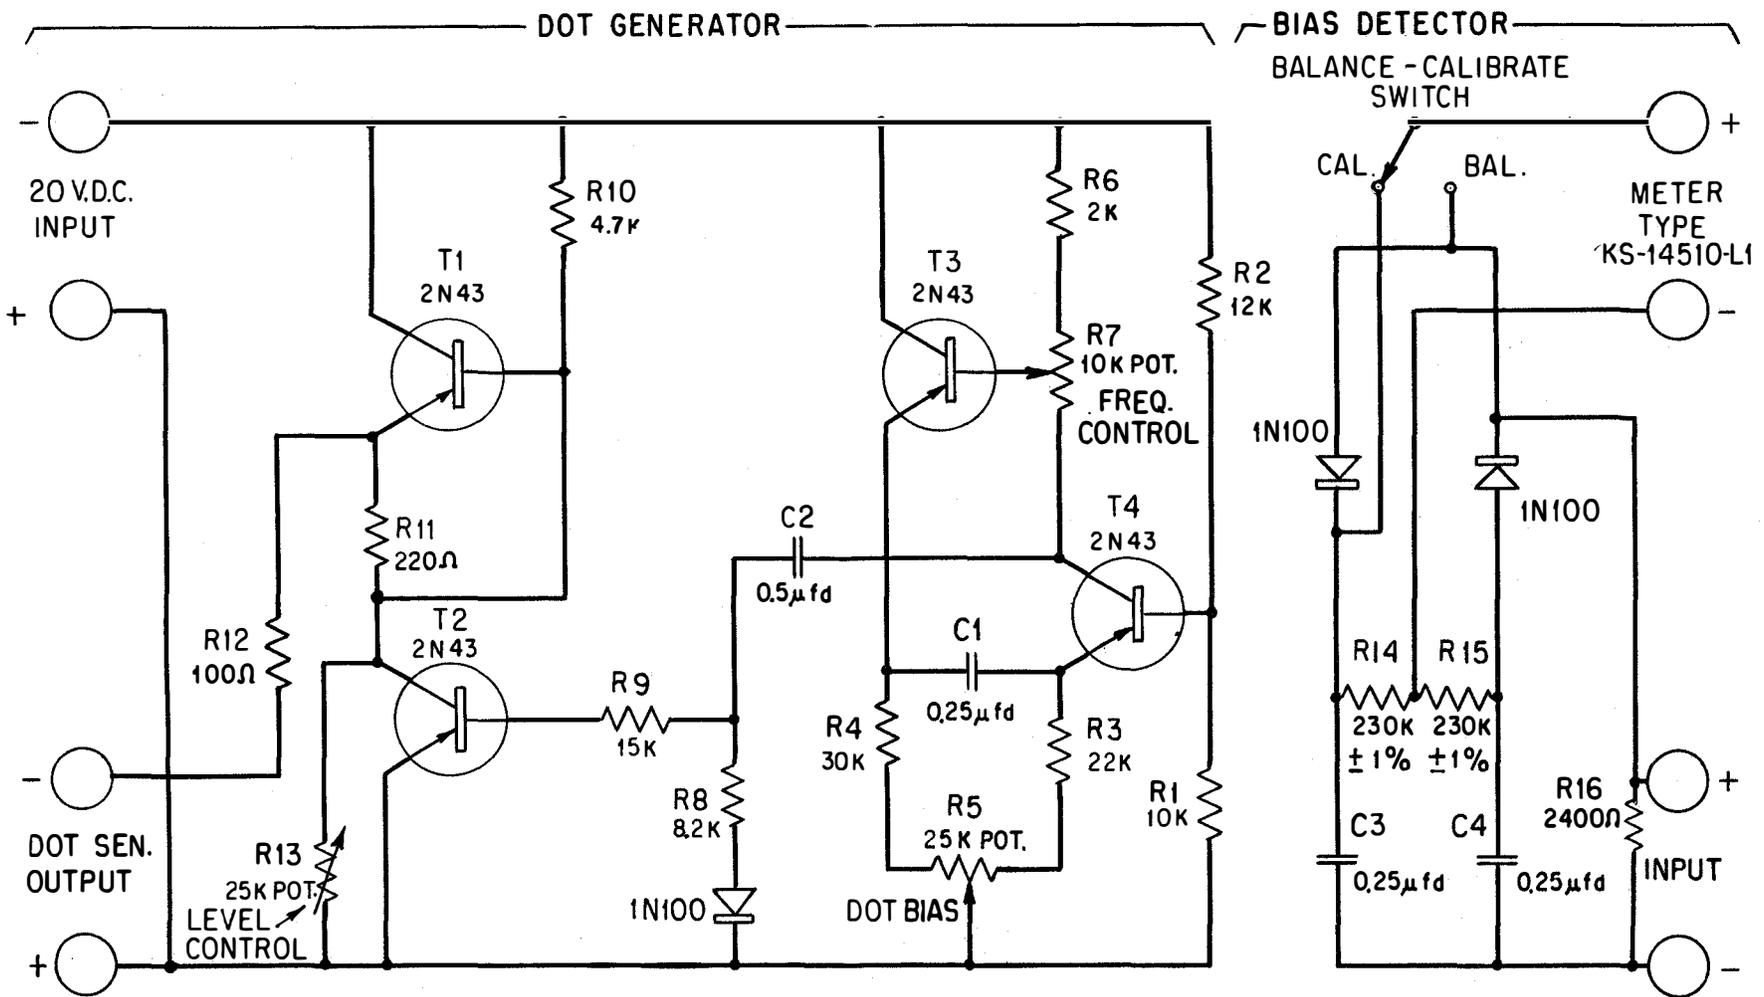

Fig. 2 — Dot Test Set
2.01 Fig. 2 is a schematic diagram of the test set. The left-hand portion of the circuit is the square wave generator and the right-hand portion is the bias detector.